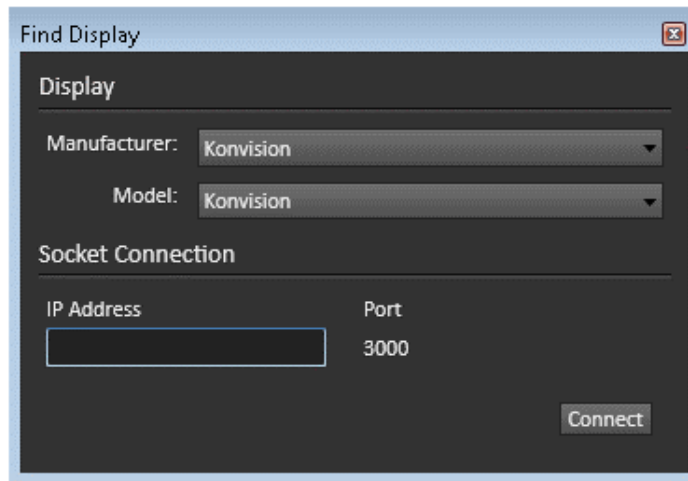

Figure 2. CalMAN Find Display dialog for connecting to Konvision display.
2. On the *Find Display* dialog (Figure 2), under *Manufacturer*, select "Konvision."